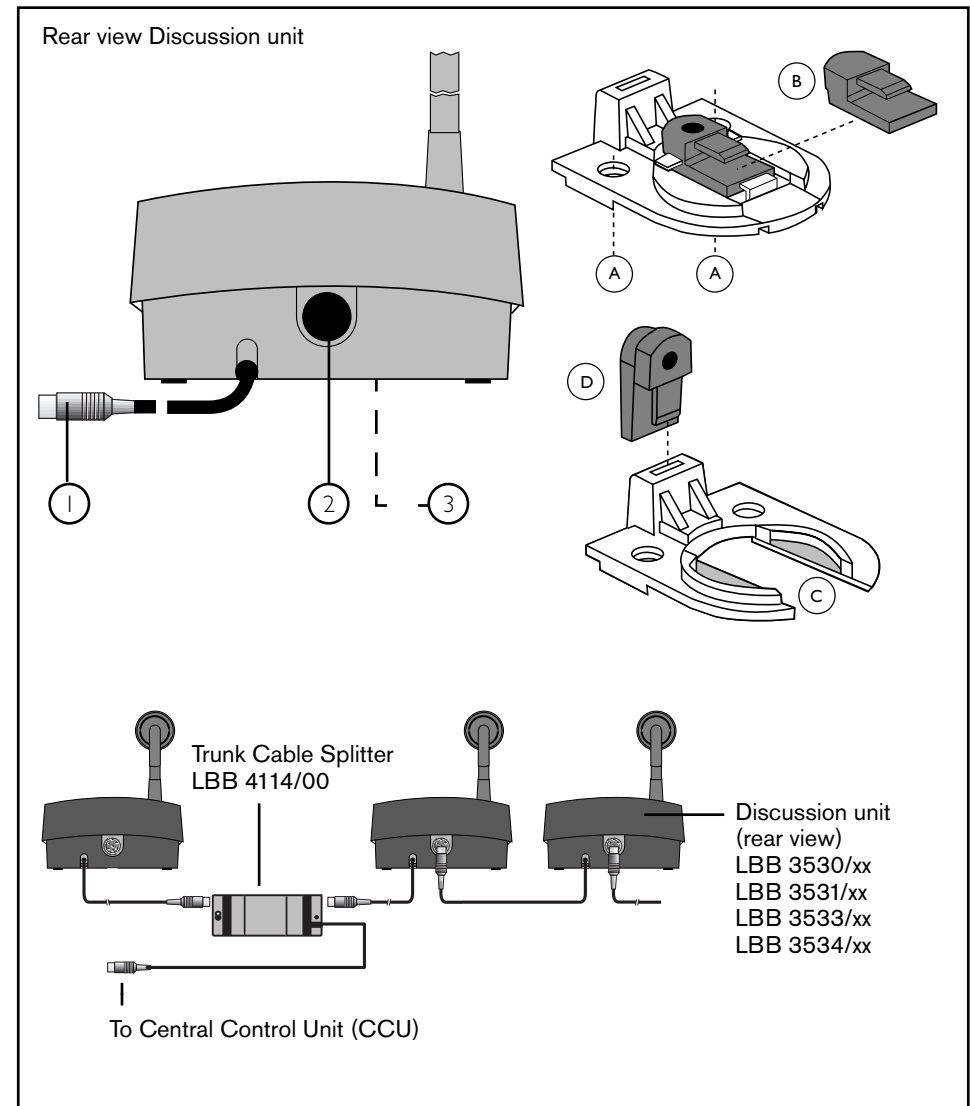

FIG. 2-6 Interconnections discussion unit (rear view)
For rear view see FIG. 2-6.
For rear view see FIG. 2-6
All discussion units include connectors for loop-through connection of one unit to the other (i.e. 'daisy chain'). FIG. 2-6 shows the connectors and the interconnection method used.
Key to symbols (FIG. 2-6)
2.3.3 Mounting discussion units (FIG. 2-6)
1. XLR socket for 'uni-directional' condenser microphone (LBB 3549/00 or LBB 3549/50 (see FIG. 2-6)) with illuminated LED light-ring to indicate microphone active (not active in 'Voice' activated mode).
6. Up/down channel select keys for use in combination with the numeric display (5)